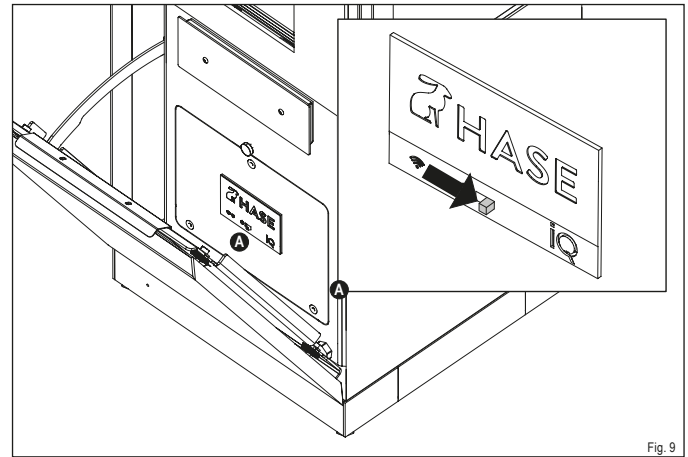

Fig. 9
- ▶ Set the switch on the control panel to "On" (Figure 9).